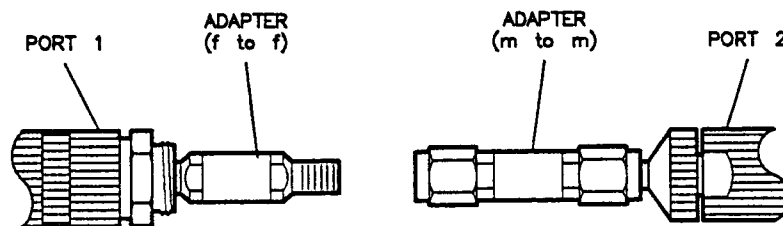

Figure 1-3. Port 2 Calibration Set
8. Using the adapters from the calibration kit, connect the equipment as shown in Figure 1-3.